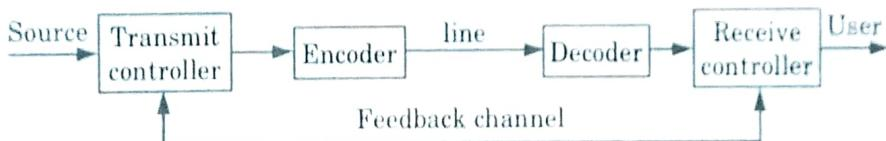

Fig. 5.5.1. Basic setup for an automatic-repeat-request (ARQ) error-correction scheme.
2. As shown in Fig. 5.5.1, the ARQ technique uses a feedback channel between the receiver and the transmitter to request message retransmission in case errors are detected at the receiver.